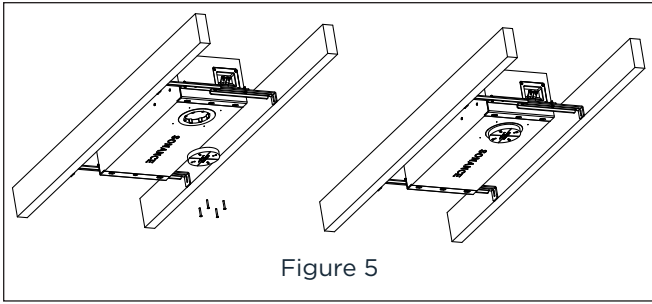

Figure 5
8. **Install Spacers and Space Savers as needed.** Select the appropriate spacers to match the thickness of your installation substrate. Add the Space Saver on top of the stack (see Figure 5). This can be adjusted later as needed. For flush installations, see the complete instructions in the SA4-66 product manual.